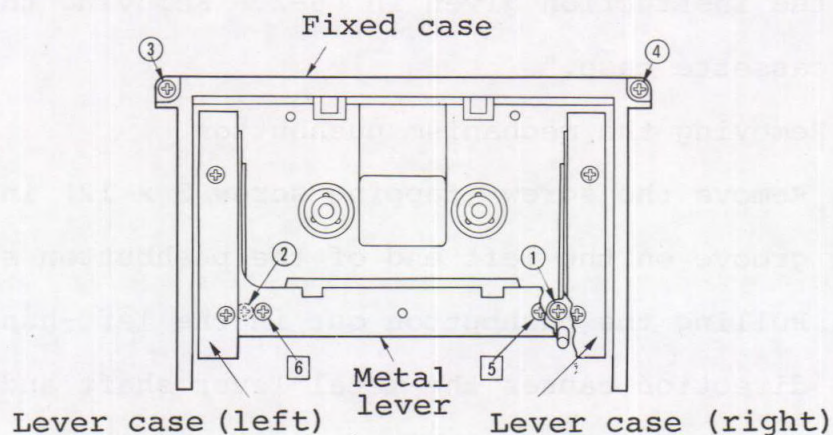

Fig. 7
- b. As the left-hand side tip of the metal lever shown in Fig. 7 protrudes on the back side of the mechanism unit, remove the back tension spring mounted between the metal lever tip and the motor holder (see disassembling diagram No. 71).
- c. Under the EJECT state, remove screws (1) to (4) (black tapping 3 x 10) on the side of the fixed case shown in Fig. 7.
- d. The lever and the case separate when screws [5] and [6] (M2.6 x 0.45 x 5) fixing the lever case shown in Fig. 7 are removed (if they do not separate easily, insert a (-) screw driver or like in between and pry them apart).
- b. Pulling the pushbutton out in the left-hand direction causes the metal lever shaft and the pushbutton shaft shown in Fig. 7 to become removable. Then the STOP, FF, PLAY and REC buttons can be pulled out.